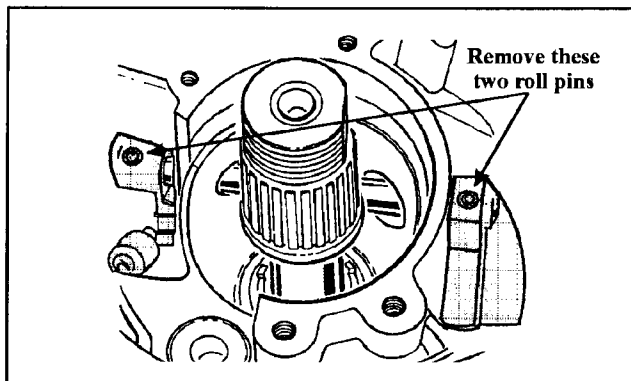

Figure 86
3. Using a roll pin punch, hold the selector steady and carefully remove the two retaining pins from the manual selector shaft (See Figure 86). Note, the retaining pins may fall into the transmission case when removed, be careful not to lose them..